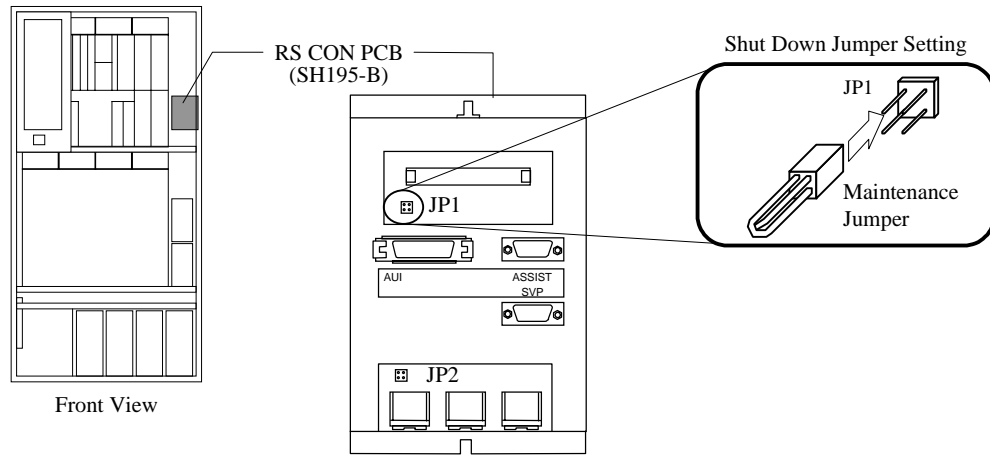

Fig. 3.15-2 Jumper settings of RS CON PCB
- a. Remove the maintenance jumper of the JP1 on the RS CON PCB. (See Fig. 3.15-2.)